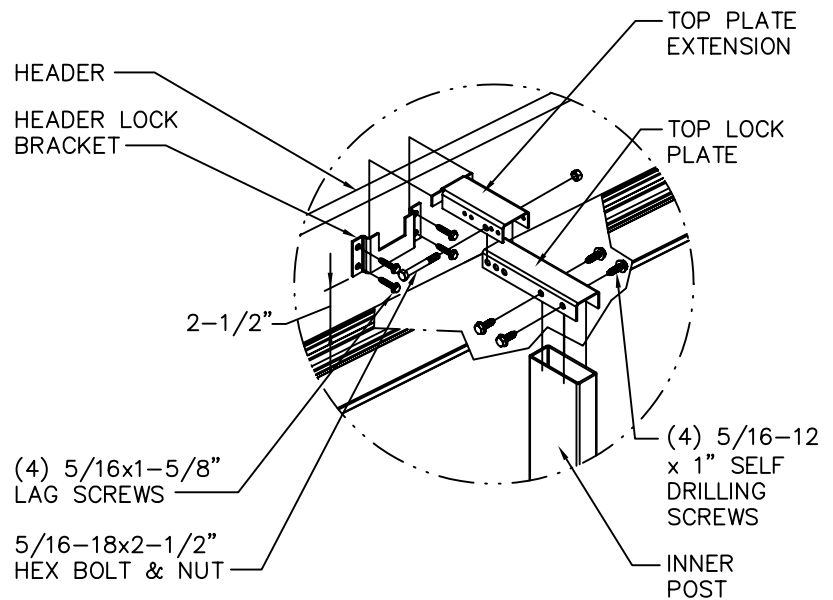

FIGURE 1
ATTACH THE HEADER LOCK BRACKET TO THE HEADER USING THE (4) 5/16"x1-5/8" LAG SCREWS PROVIDED AS SHOWN IN FIGURE 1. THE HEADER LOCK BRACKET SHOULD BE IN LINE WITH THE INTERMEDIATE HINGES WHERE THE POST IS TO BE INSTALLED AND LOCATED SUCH THAT THE BOTTOM OF THE BRACKET IS APPROXIMATELY 2-1/2" ABOVE THE TOP OF THE DOOR.
ALIGN THE LARGE DIAMETER HOLE IN THE TOP PLATE EXTENSION WITH THE FIRST HOLE IN THE TOP LOCK PLATE AS SHOWN IN FIGURE 1 AND BOLT TOGETHER WITH (1) 5/16-18x2-1/2" HEX BOLT AND NUT. ALIGN THE ASSEMBLY OVER THE TOP OF THE INNER POST AND SECURE WITH (4) 5/16-12x1" SELF DRILLING SCREWS THROUGH THE HOLES PROVIDED IN THE TOP LOCK PLATE. SLIDE THE OPPOSITE END OF THE INNER POST INTO ONE END OF THE OUTER POST.